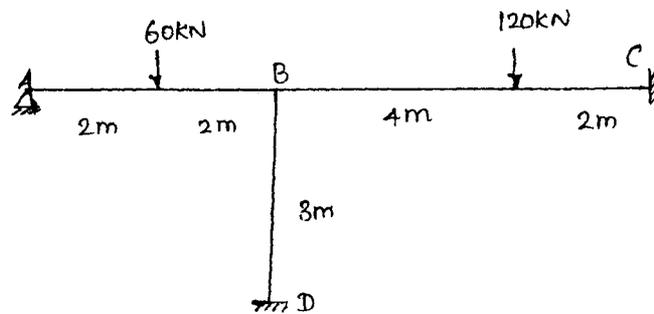

Fig. 10
- (b) Analyse the frame shown in Fig. 10 by the matrix stiffness method.